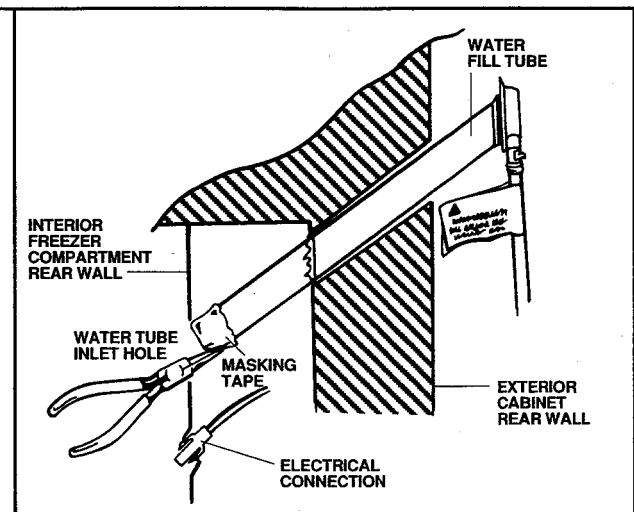

Figure 10
- a. From inside the freezer compartment, pull the water fill tube through the hole in the interior rear wall. See Figure 10.